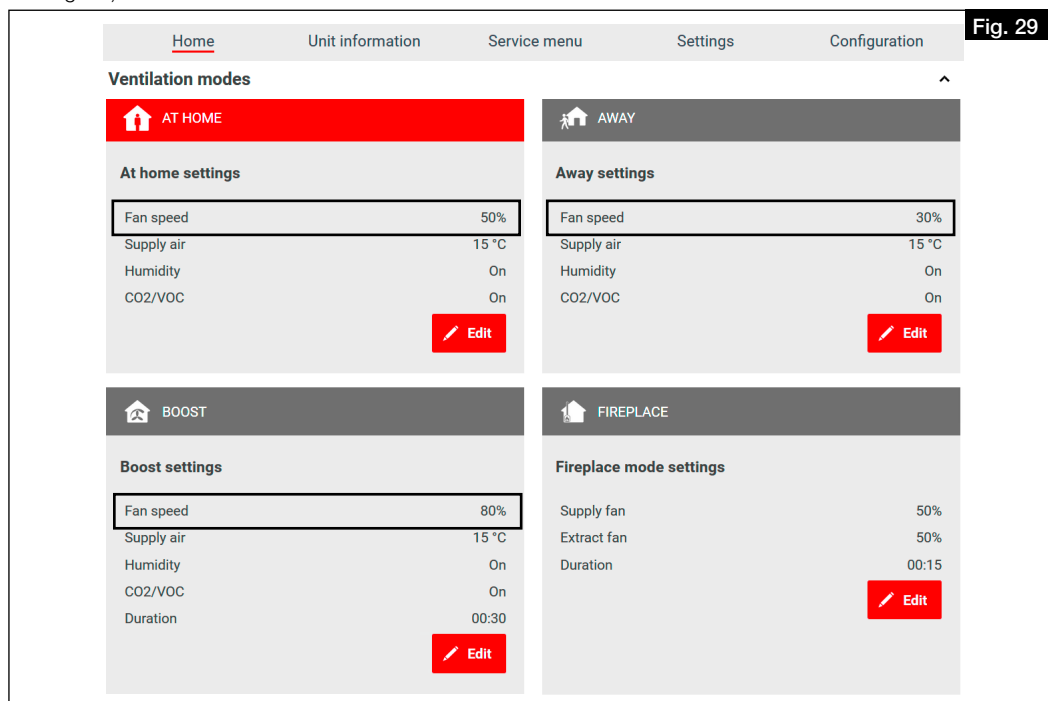
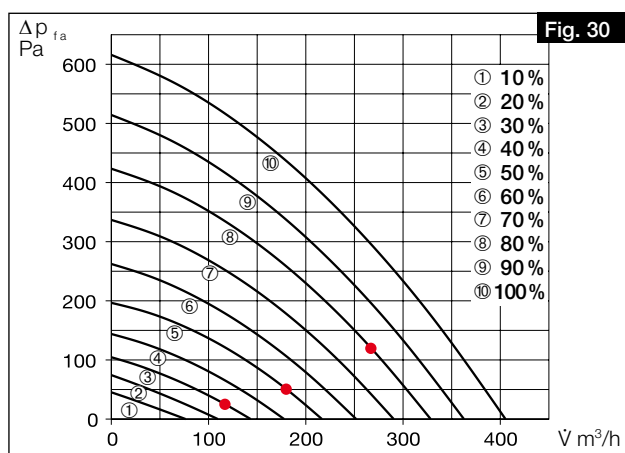

Fig. 29
Fig. 30
① Ensure approx. 20 cm straight settling section up to the measuring connectors!
2. Enter the following values for the fan powers in the respective ventilation profile via the easyControls software or the control element KWL-BE Touch: **Away**: 30 % / **At home**: 50 % / **Boost**: 80 % (cf. Fig. 29).
4. Enter the determined differential pressures from the supply and intake air measurement in the unit characteristic curve for supply air (see Fig. 24 and Fig. 26) according to the fan outputs saved in the ventilation profile (cf. Fig. 29 and Fig. 30).
5. Enter the determined differential pressures from the extract and exhaust air measurement in the unit characteristic curve for extract air (see Fig. 25 and Fig. 27) according to the fan outputs saved in the ventilation profile (cf. Fig. 29 and Fig. 30).